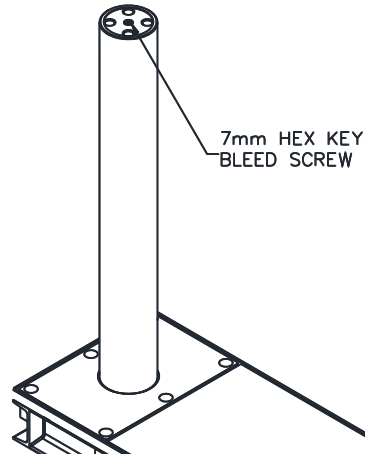

Fig 15 – Cylinder Bleeding
24. Energize the power unit to run the cylinder up about 3 feet. Loosen the bleed screw at the top of each cylinder, allow the trapped air to escape, and tighten bleeder screw. Bleed both cylinders until clear oil is seen. Refer to **Fig 15**.